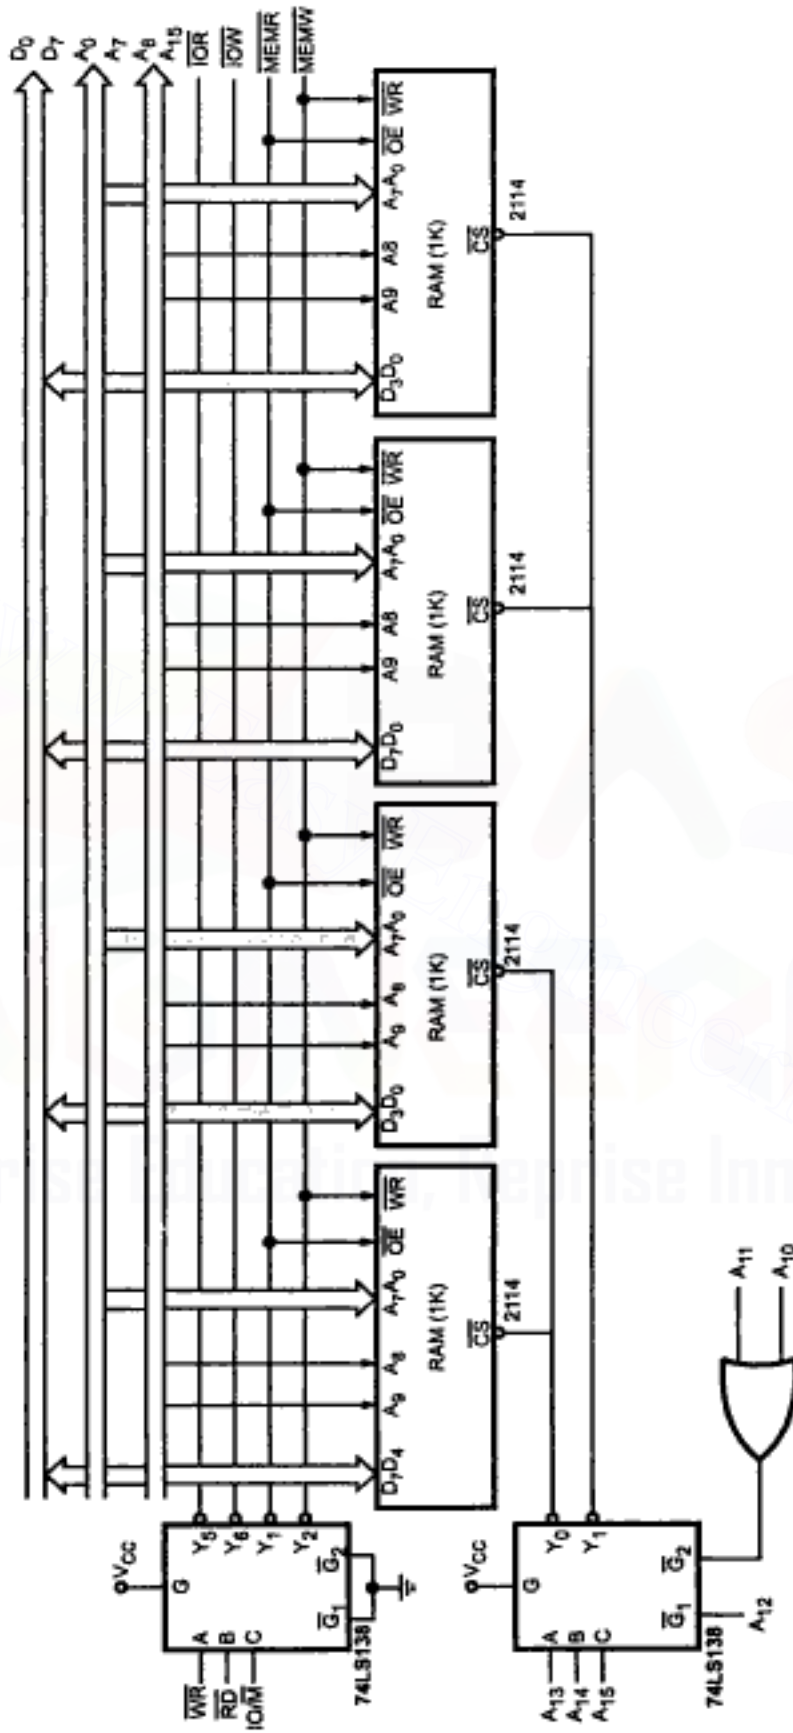

Fig. 6.21 Memory system using 2114 (1K x 4) chips
**Solution :** 2114 RAM is  $1K \times 4$  i.e. it has 1K (1024) memory locations, each of which is of 4 bits. 8085 is an 8 bit processor. To interface byte RAM, we require two nibble wide RAMs, connected together to form byte wide RAM. To form  $2K \times 8$  RAM we require two sets of  $1K \times 4 + 1K \times 4$  RAM chips. So in all we require four  $1K \times 4$  RAM chips. Fig. 6.21 (See on next page) shows the interface. The IC 74LS138 is used to generate chip select ( $\overline{CS}$ ) signals. Table 6.8 shows the memory map.